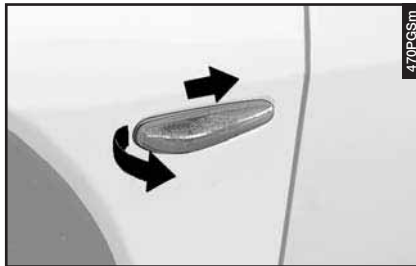
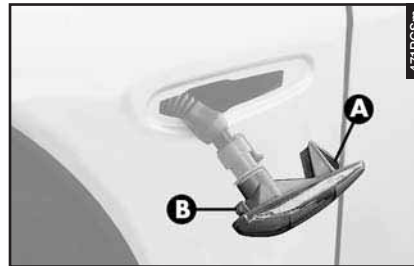

fig. 53
fig. 54
– Push the transparent cover (**fig. 53**) towards the rear of the car to compress the tab (**A-fig. 54**). Release the catch (**B**) and remove the unit.
Refit the unit firstly inserting the catch (**B-fig. 54**) on the front part and then pressing the rear part until the catch (**A**) clicks into place.